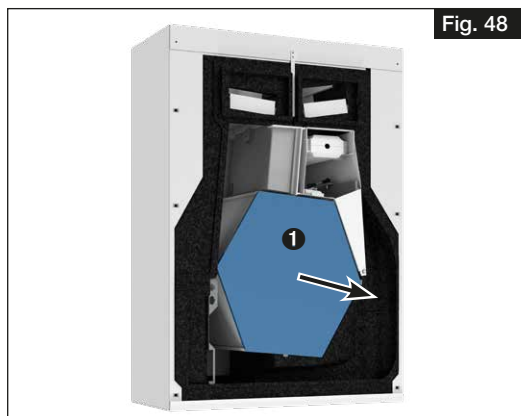

Fig. 48
3. Carefully remove the heat exchanger ❶ from the unit (Fig. 48 “” on page 33).